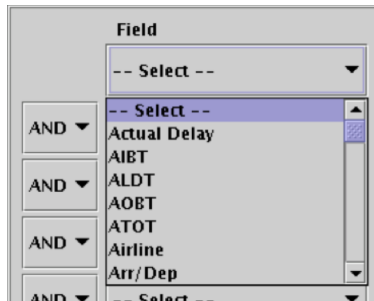

Figure 61. Select a field to filter by.
**Step 2:** Select the desired data field by clicking on the "-- Select --" drop-down button (Figure 61).